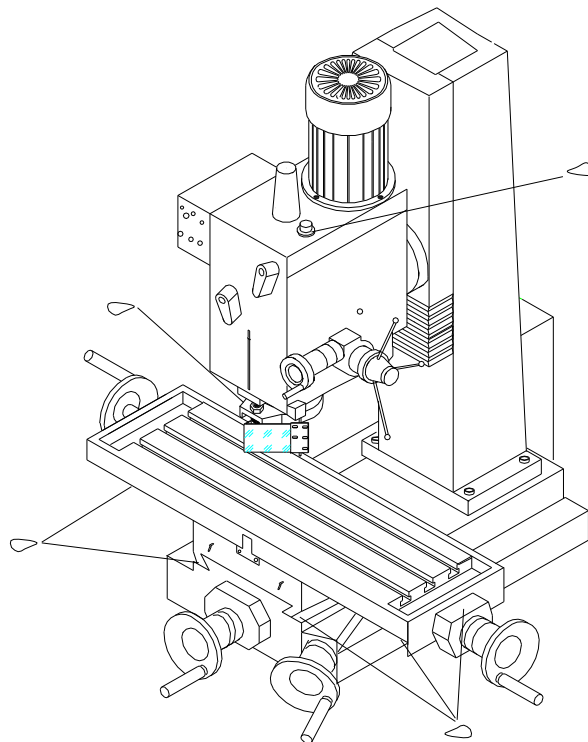

Fig 1
8.2 Before starting machine. Please lubricate all bright work and guide surface as the lubricate manual (see fig 1). The level of oil should keep the middle of oil gauge.
Please confirm if all the parts is the fit place before operation. The machine can offer accuracy service if the normal safe equipment cared for carefully (see Fig 1).